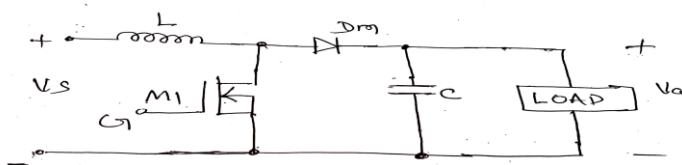

Fig Q 6 (b)
- b) A Boost regulator shown in Fig Q 6(b) has an input voltage of $V_s = 5$ V. The average output voltage $V_a = 15$ V and the average load current $I_a = 0.5$ A. The switching frequency is 25 kHz. If $L = 150 \mu\text{H}$ and $C = 220 \mu\text{F}$. determine (i) duty cycle (ii) the ripple current of inductor (iii) peak current of inductor (iv) ripple voltage of filter capacitor (v) the critical values of L and C **10**